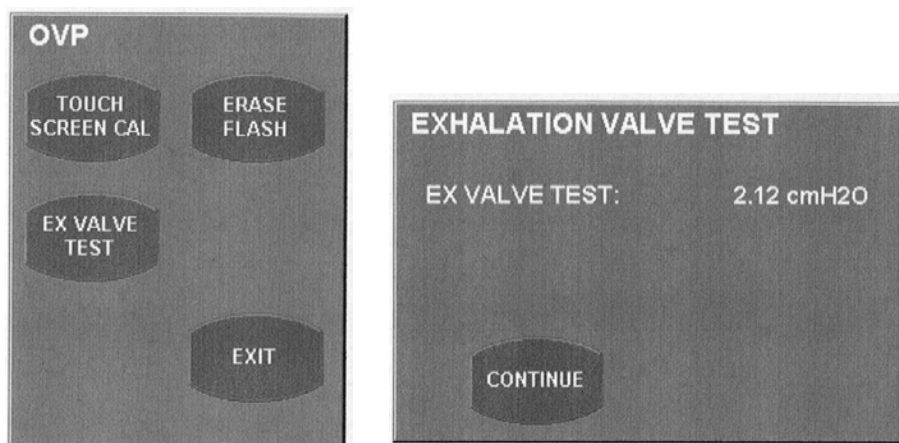

Figure 7.34
3. Touch the EX VALVE TEST icon, and then the Continue icon (Figure 7.34).